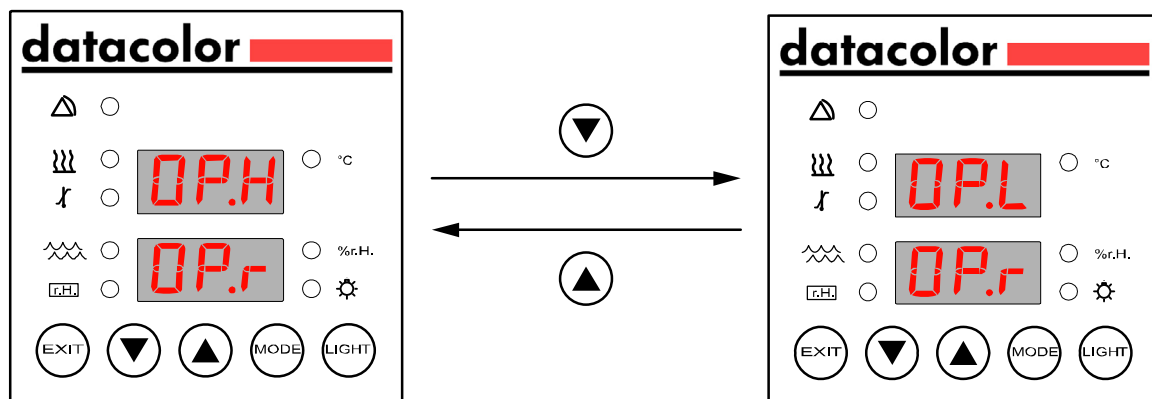

Figure 7: Locking and unlocking of set up mode of the operating parameters
- Press the  and  buttons simultaneously for 3 seconds to move from the basic display to the menu for selecting the Conditioner's operation modes. In the upper display the value “OP.H” for “operating mode hand” is displayed (Figure 7).
- Press button  to enter the “operating mode lock”. In the upper display the value “OP.L” for “operating mode lock” is displayed (Figure 7). The value “OP.L” can only be selected, if a password is set via parameter “PA.H” (Table 3 on page 30 or Table 4 on page 31).
- Press button  to enter the "operating mode hand". In the upper display the value "OP.H" for "operating mode hand" is displayed (Figure 7).